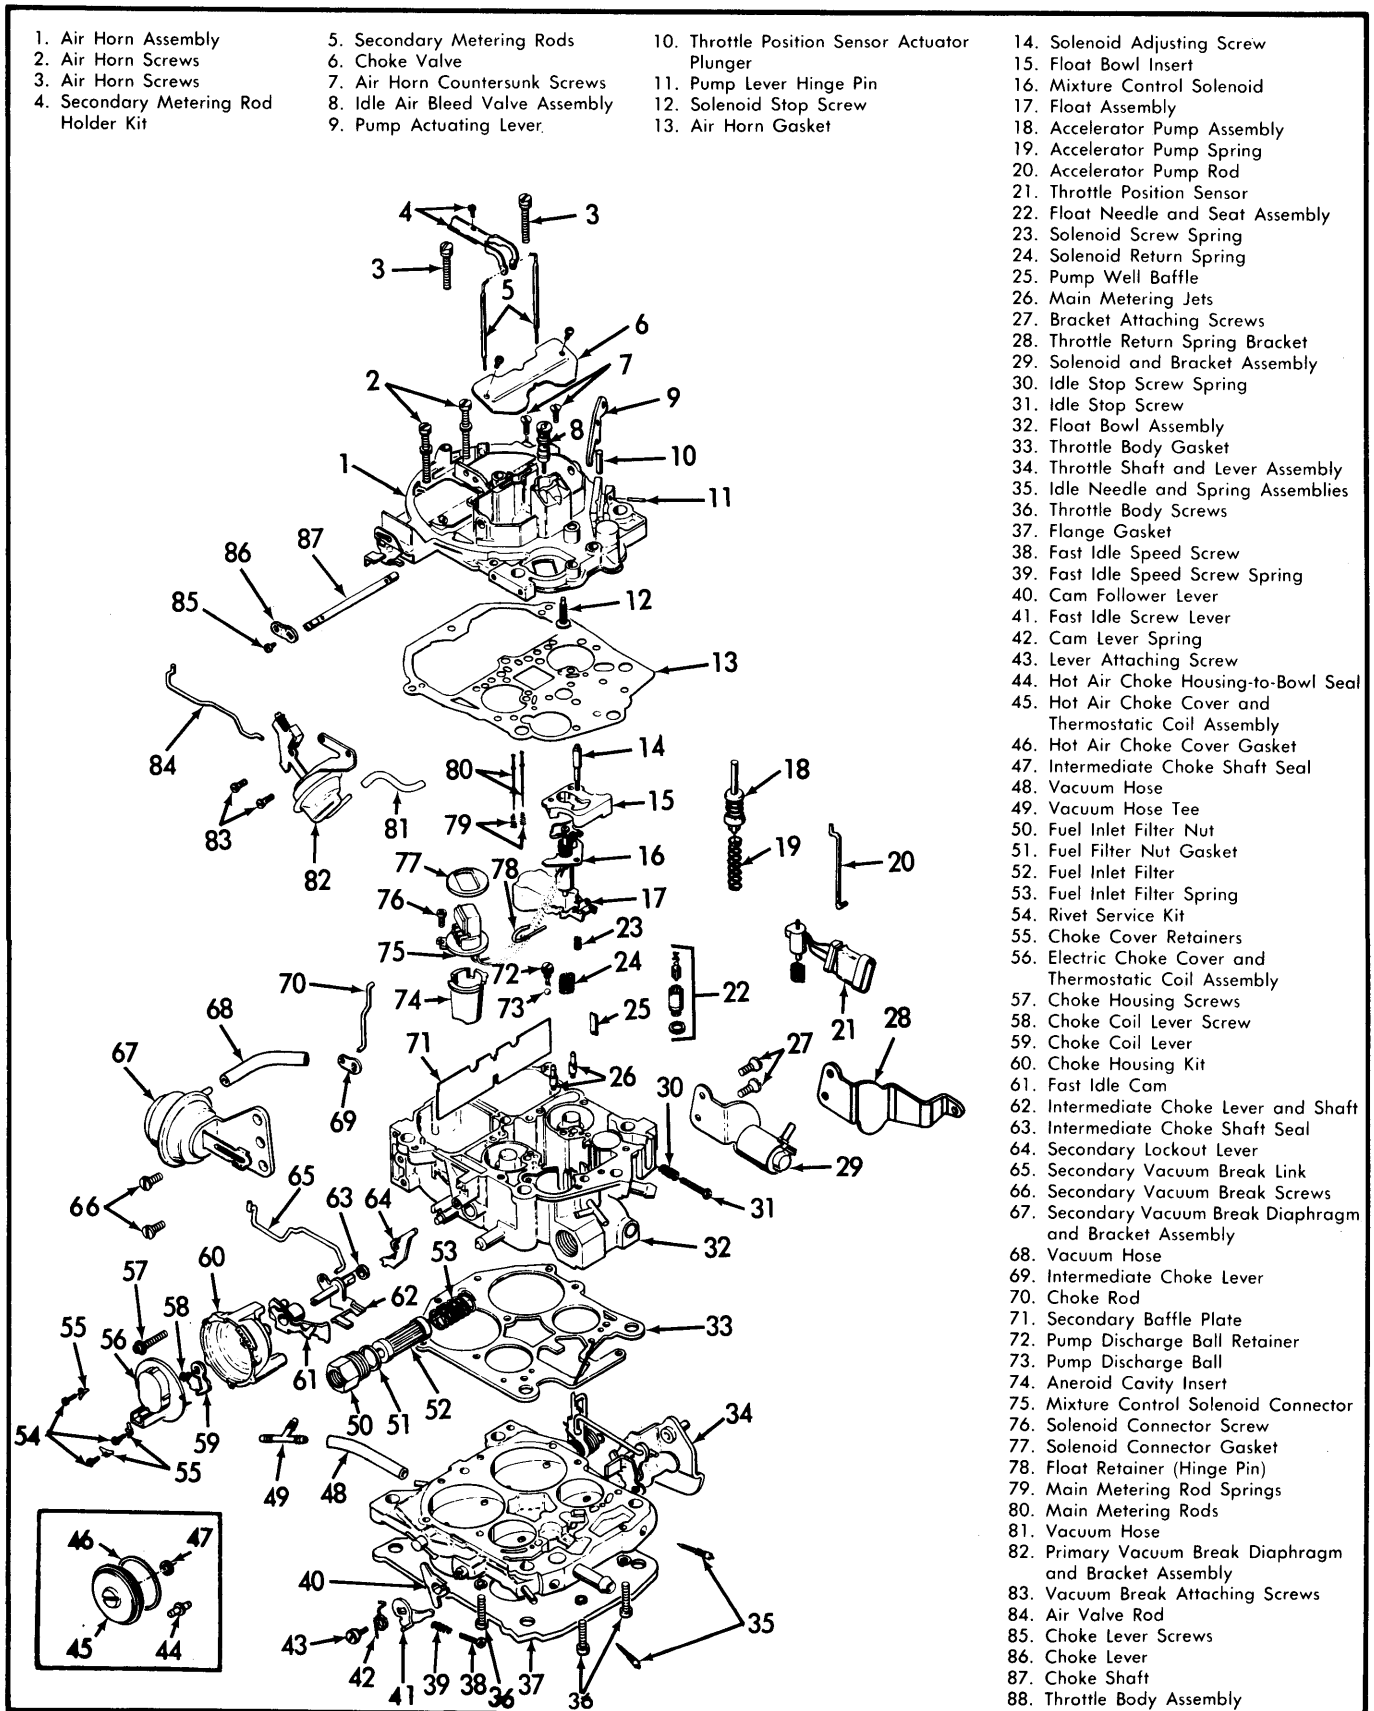

Fig. 15 Exploded View of Rochester Model E4MC and E4ME 4-Barrel Carburetors
7) Install air horn screws and tighten evenly, securely, and in sequence shown in Fig. 15.